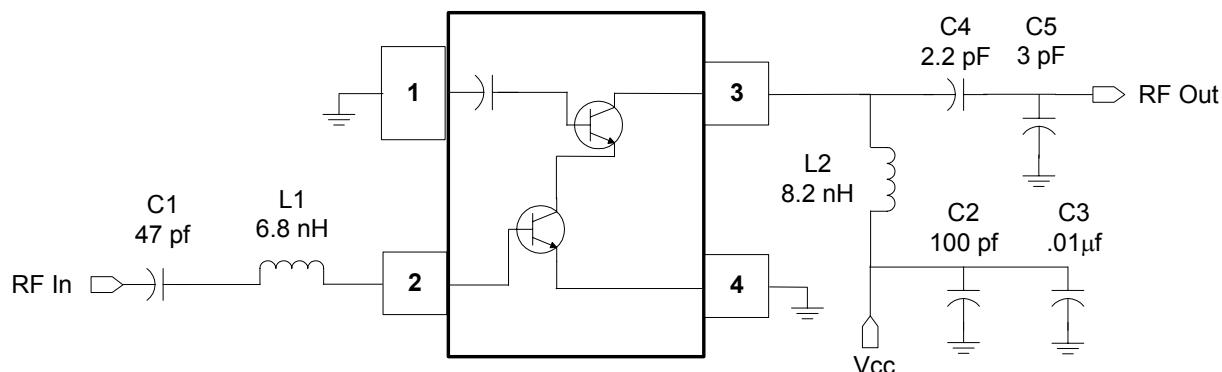
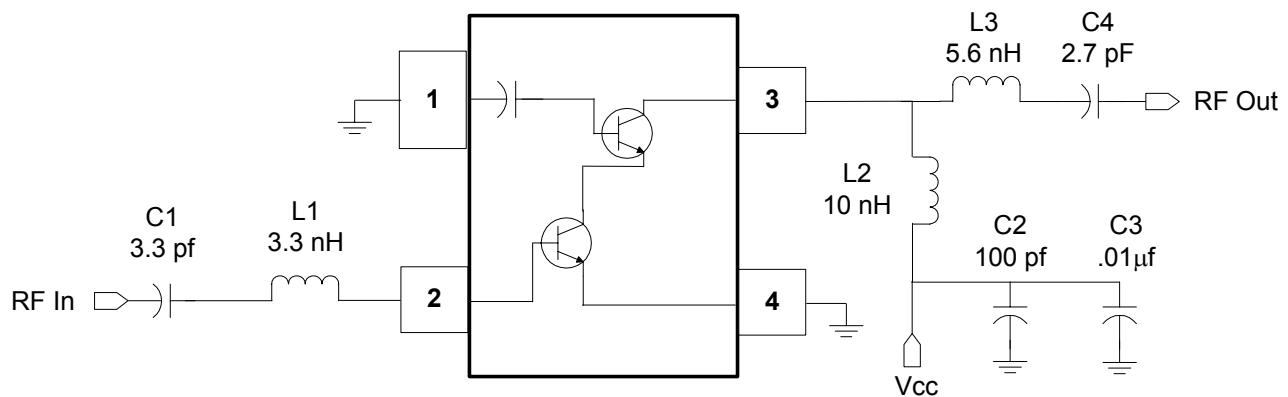

Figure 8. 900 MHz Applications Circuit Configuration
Figure 10. 1.9 GHz Application Configuration Circuit
Figures 8 and 9 show the 900 MHz applications circuit configuration and printed circuit board. The 1.9 GHz application configuration circuit and printed circuit board are shown in Figures 10 and 11. Tables 5 and 6 represent the electrical characteristics for the tested 900 MHz and 1.9 GHz application circuits. The bill of materials are listed in Table 7.
($V_{CC} = 2.7$ V, $T_A = 25^\circ$ C, $f_{RF} = 900$ MHz, Tested in Circuit Shown in Figure 8, unless otherwise noted.)
Table 6. Electrical Characteristics(V_{CC} = 2.7 V, T_A = 25°C, f_{RF} = 1.9 GHz, Tested in Circuit Shown in Figure 10, unless otherwise noted.)
900 MHz Figure 8
1.9 GHz Figure 10